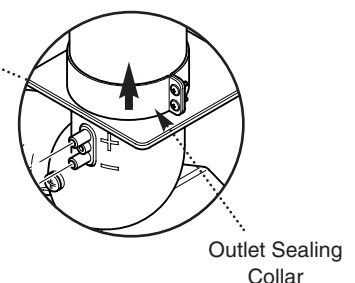

Fig. 50
8. Slacken the screws on the outlet sealing collar. Ease the collar upwards as far as possible (Fig. 50).